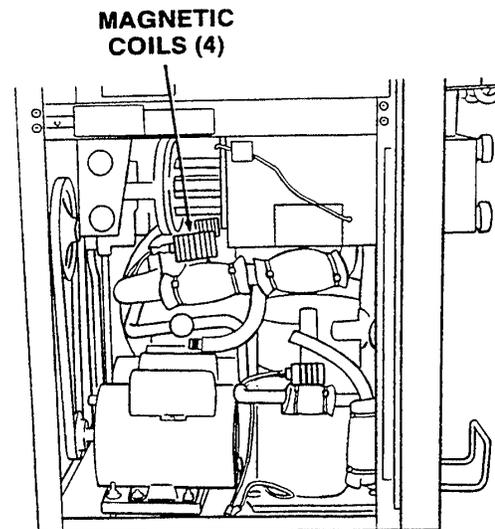

Figure 48. Solenoid Replacement
- Identify (mark) and disconnect the electrical wires (Figure 48).